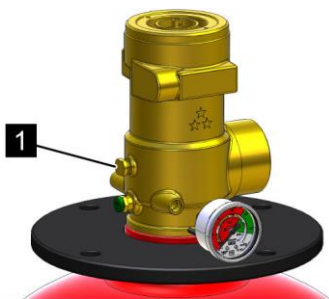

Fig. 181: Control connection
6. ➤ Check the valves to see whether all unused control connections (Fig. 181/1) are closed off with blind plugs and the blind plugs are screwed in all the way. Cap unused control connections with blind plugs for control connection G1/8 (part no. 888032).